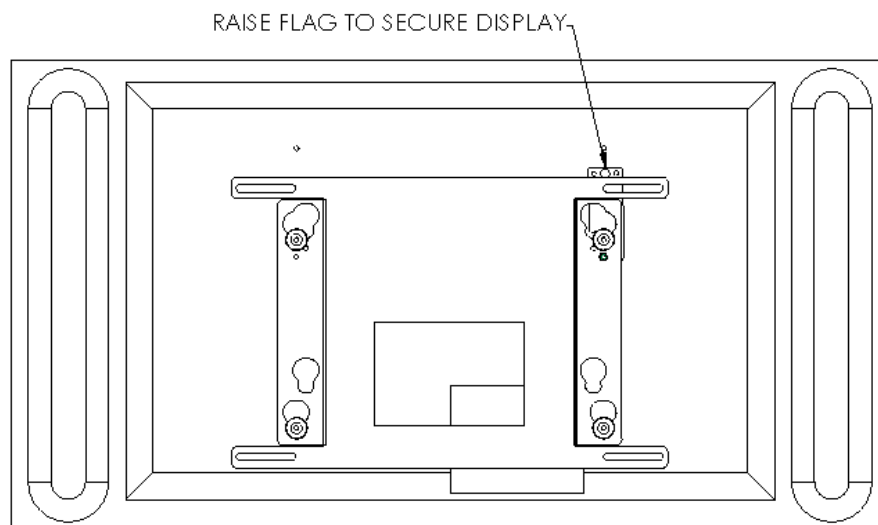

Figure 3
4. With the aid of another person, lift the display up to the mount, align the mounting buttons on the display with the teardrop slots in the mount, and set the display into place (see Figure 3).